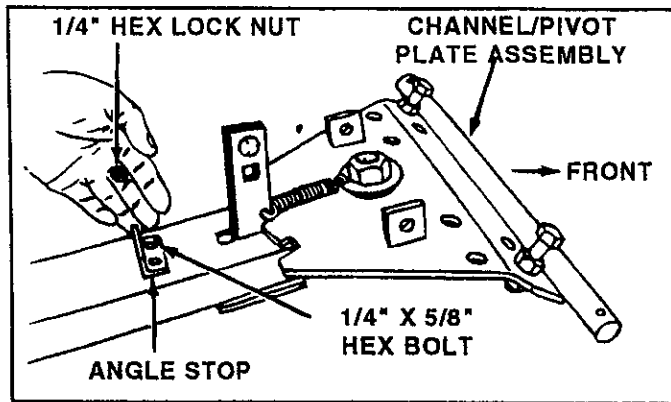

FIGURE 5
- Assemble angle stop to top of channel using one 1/4" x 5/8" hex bolt down through left hand hole, and one 1/4" hex lock nut under channel. See figure 5. Do not tighten at this time.